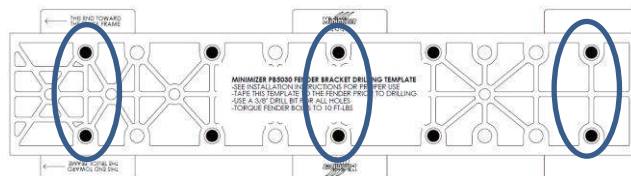

Figure 15
- a. Drill six 3/8" holes through the fender. Use the paper template as a guide at the locations circled below (Figure 15). One template is provided for every PB5030 bracket.